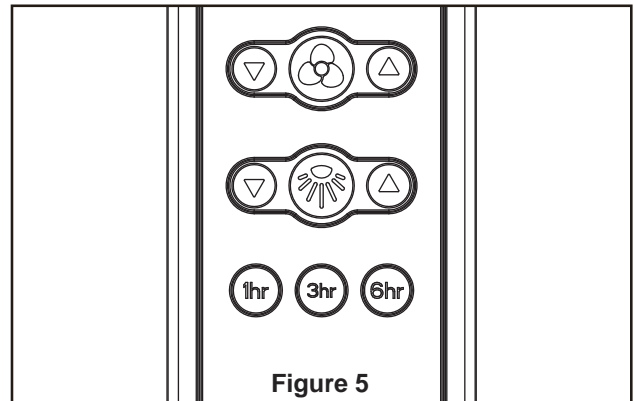

Figure 5
- 5. Assemble the light plate assembly to the switch housing assembly using the two key slots in the light plate assembly. Replace the third screw and secure all three screws. (Figure 5)
### 5. Remote functions: (Figure 5)